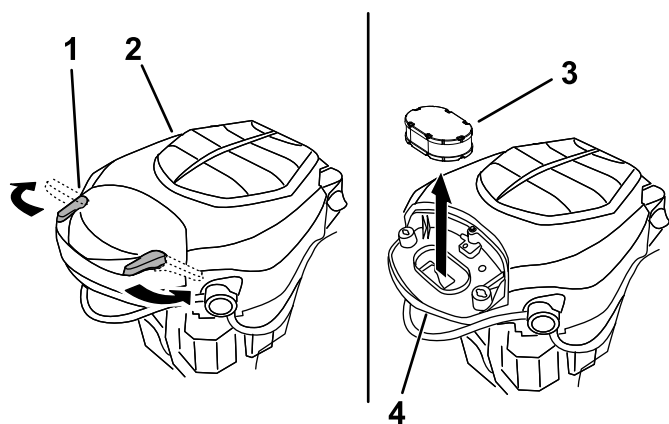

Figure 31
3. Install the cover and secure it with the latches (Figure 31).